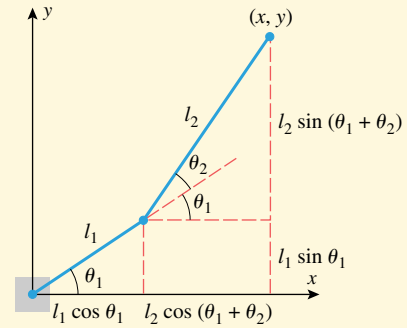

Figure 3
To analyze the motion of the robot arm, Robin denotes the coordinates of the paint sprayer by (x, y) , as in Figure 3, and she derives the following equations that express x and y in terms of the angles θ_1 and θ_2 and the lengths l_1 and l_2 of the links:
Exercise 1 Use Figure 3 to confirm the equations in (1).